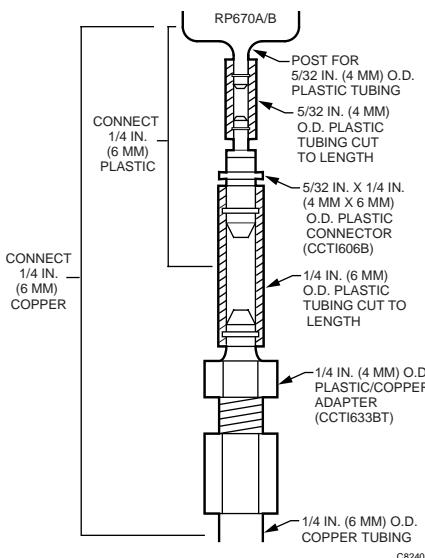

Fig. 4. Adaptation piping.
Fig. 4 shows adaptation piping. All connections are sharp barb 5/32 in. (4 mm) O.D. polyethylene tubing.
**NOTE:** When the system is other than copper or polyethylene tubing, adapt as shown in Fig. 4. Some models provide parts for adapting.